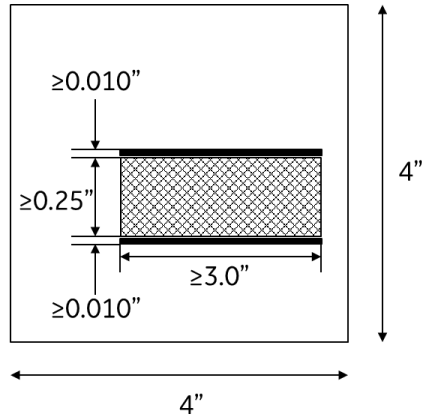

Figure 5. Sandwich Beam Maximum Dimensions
- 3.5. Criteria for Sandwich Bridges. Sandwich bridges must maintain a constant cross-sectional area along the length. The cross-sectional width shall be at least 3.0 inches. The facesheets shall be at least 0.010 inches thick. The core shall be at least 0.25 inches thick. The core type may vary within the cross-section and along the length. There shall be no reinforcing webs, trusses or posts through the thickness or perpendicular to the facesheets. The maximum dimensions for a sandwich beam are shown in Figure 5.